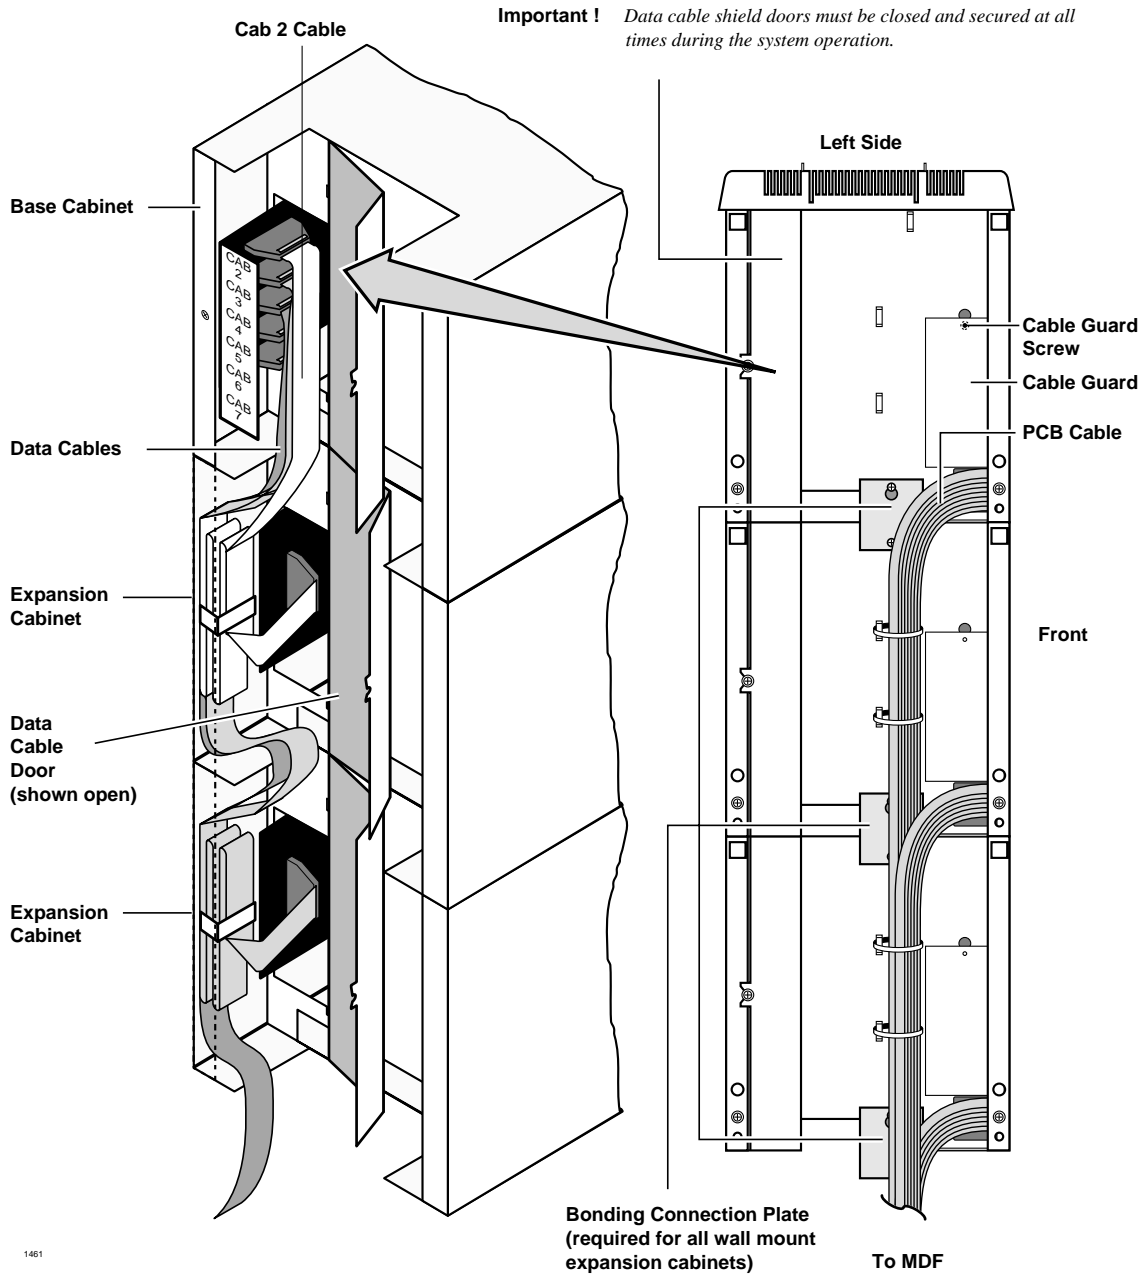

Figure 5-10 Left Side View of Cabinet Interior
6. Install PCBs and PCB cabling.	Figures 5-10, 5-12, and 5-21 .
- ♦ Connect the Expansion Cabinet data cable to the “CAB. 2” data cable connector on the Base Cabinet (Figures 5-10 and 5-28).
12. Connect the data cable of each Expansion Cabinet to the applicable data cable connector on the Base Cabinet (Figures 5-10 and 5-28). (The data cable from the first Expansion Cabinet should be connected to the connector labeled “CAB. 2”, the cable from the second Expansion Cabinet to the “CAB. 3” connector, etc.)